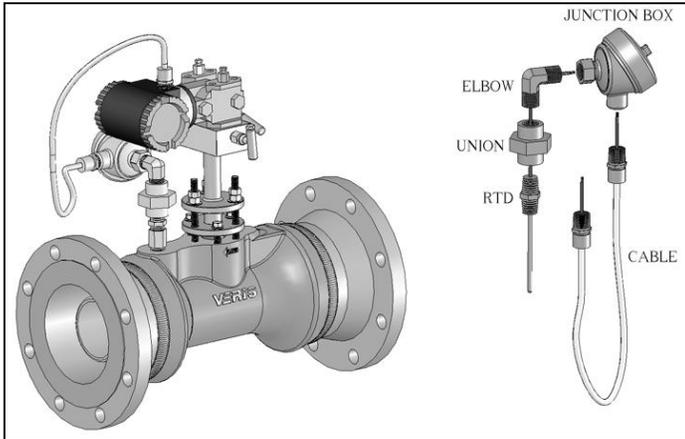

Figure 9. RTD Assembly Installation
- When installing an RTD assembly, use the following procedure and Figure 9.
- 3) Gently thread the RTD wires through the elbow. Apply the same thread sealant to the elbow threads and thread into union. If necessary loosen the union and position the elbow so that it points to the side of the body as shown in Figure 9, re-tighten the union.
- 4) Push the RTD wires into the junction box and thread the box onto the elbow in the orientation shown in Figure 9.